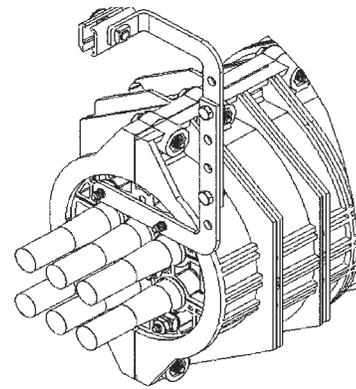

FIGURE 51 - PLACE HANGER BRACKET
17.03 Place hanger bracket onto ground inserts. (Figure 51)